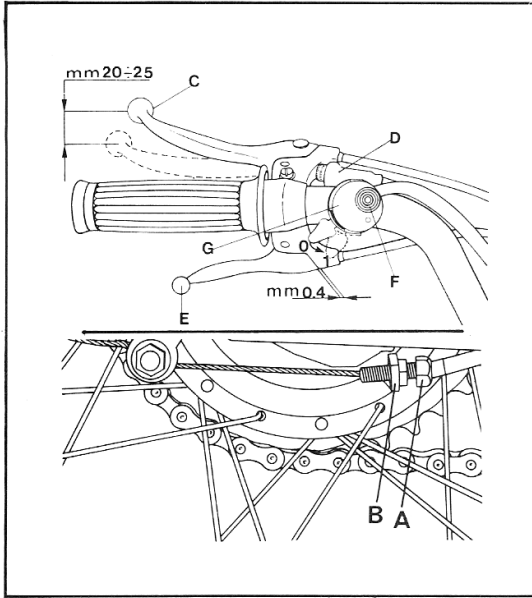

Fig. 10
- adjust clearance between handlebar lever and its bracket; 4 mm about (Fig. 10);
- adjust the movement of the front brake control lever «C», using adjuster screw «A» after loosening counter nut «B» (Fig. 10). The idle movement must be 20-25 mm. The lever «C» actuates the stoplight cutout (D) and the tail light bulb «D» Fig. 15 lights on;
Light control switch and horn button (see Fig. 10).